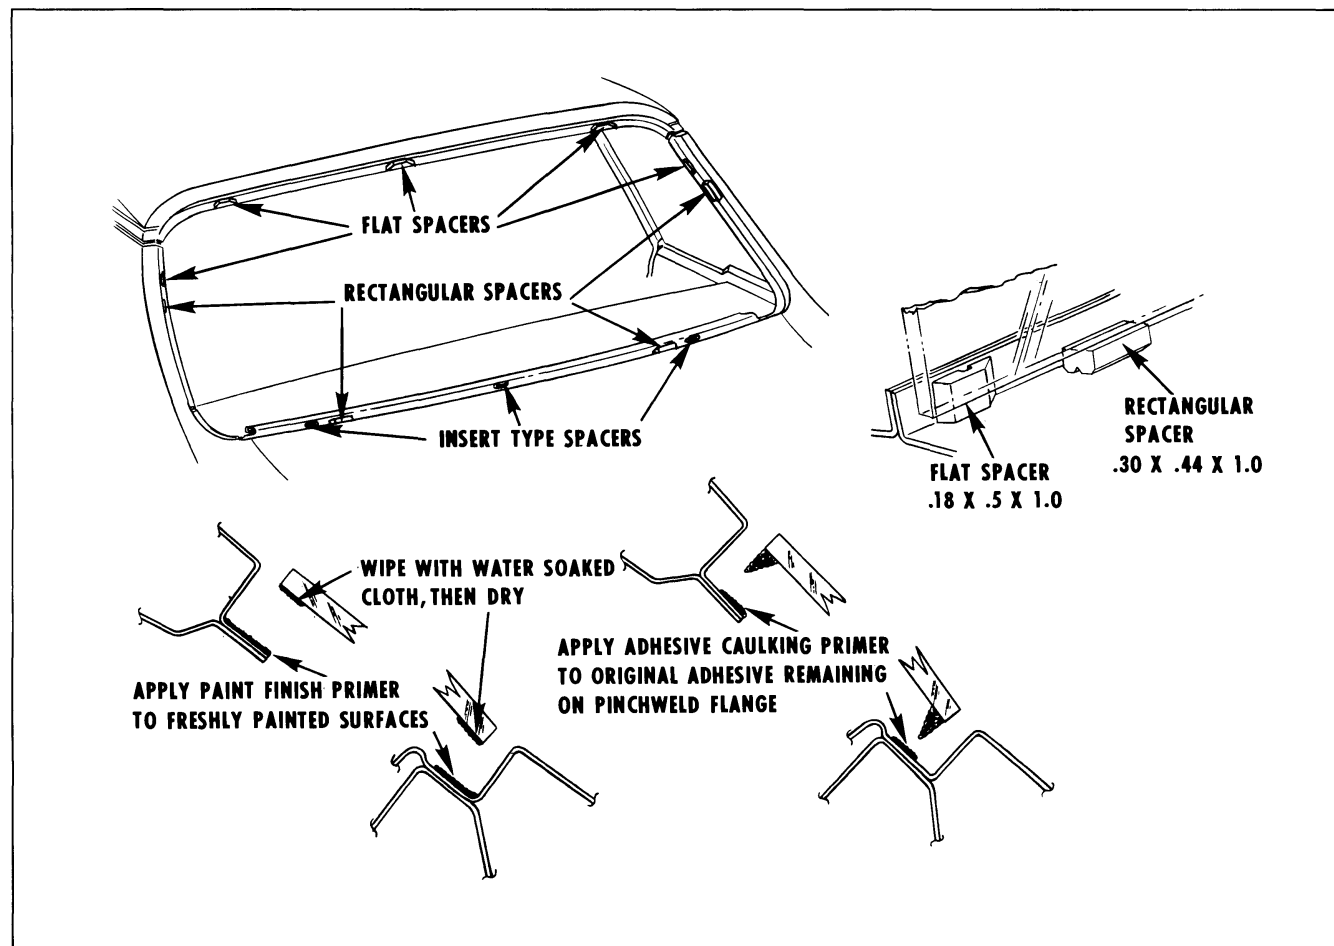

Fig. 14-4 Window Opening Prepared for Window Installation
2. Cement five flat (.180 x .5" x 1.0") spacers to back window upper and side pinchweld flanges with black weatherstrip adhesive as described below and illustrated in Fig. 14-4.
4. Using black weatherstrip adhesive, cement four .30 x .44 x 1.0 rectangular spacers to lower and side back window opening rabbet as described below and illustrated in Fig. 14-4.